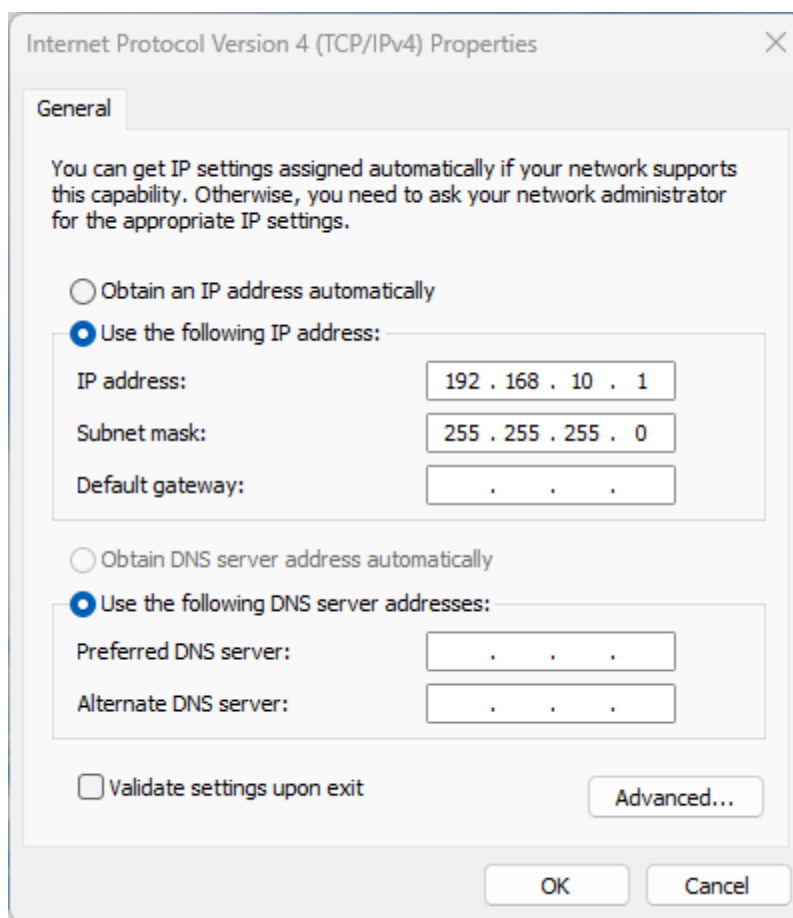

Figure 5.24. Static IP Settings
7. Fill the properties as shown in Figure 5.24.